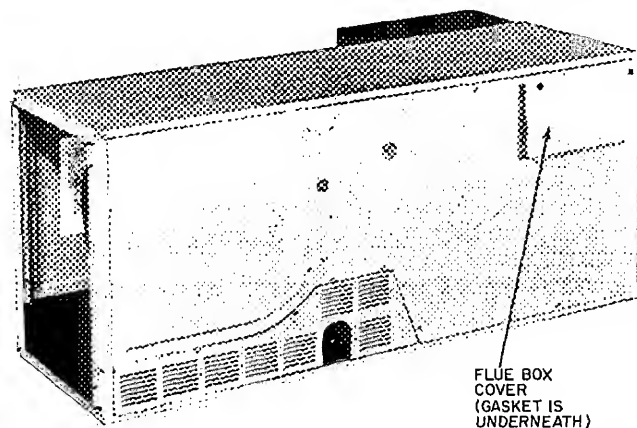

Fig. 12 — Flue Box Cover
27. Remove the flue box cover and flue box cover gasket and remount them where the draft hood was located. See Fig. 12. *Do not* glue gasket to cover plate.